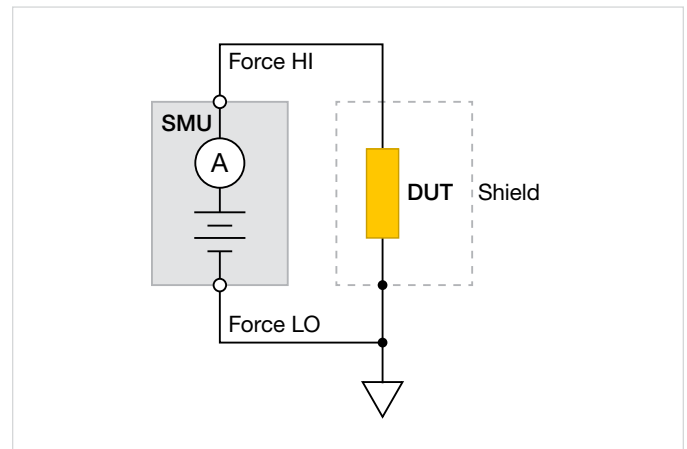

Figure 12. Conductive shield is connected to Force LO.
- Shield the device under test by surrounding it with a conductive enclosure and connect the enclosure electrically to the test circuit common terminal (Force LO) as shown in **Figure 12**. The shield can be just a simple metal box or meshed screen that encloses the test circuit.